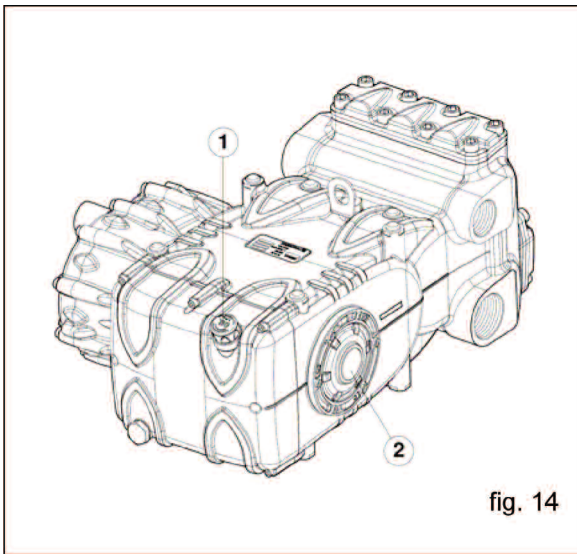

fig. 14
6. The oil level in the pump must be verified using the appropriate dipsticks (position 1, fig 14), and also by means of the oil sight glass (position 2, fig 14).